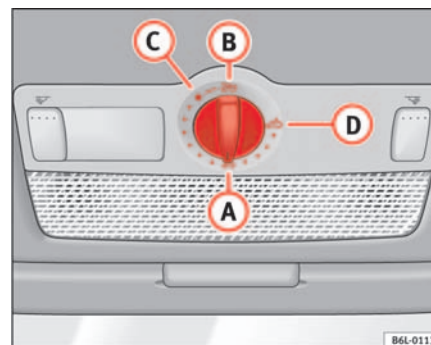

Fig. 53 Detail of the sunroof: rotary button for sliding/tilting sunroof
- Turn the rotary button to position **A** ⇒ fig. 53 ⇒ . ▶